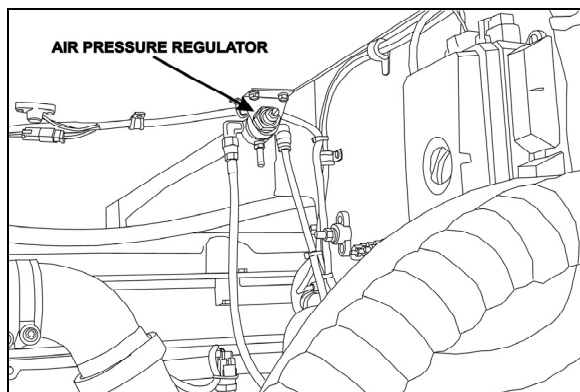

FIGURE 13: AIR PRESSURE REGULATOR (TYPICAL) 07037
20. Adjust the retarder pressure to 80 ± 3 psi with the air pressure regulator. For more information refer to Section 12, "BRAKE AND AIR SYSTEM", under heading "AIR PRESSURE REGULATOR". The air pressure regulator is located in the engine compartment, above the rear junction box (Fig. 13).